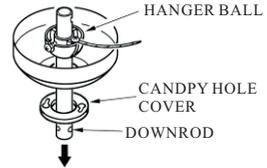

FIG. 2
2. Insert the down rod through the center opening in the canopy, coupling cover and route the motor leads through the downrod. (see fig 2)